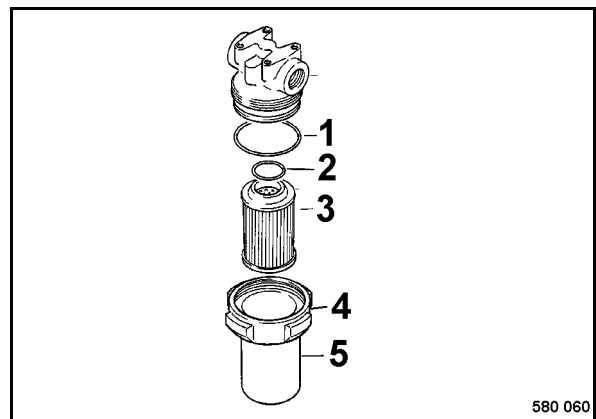

Fig. 176
- Unscrew the cap nut 4 (Fig. 176) and take the filter bowl (5) with the filter element (3) off.